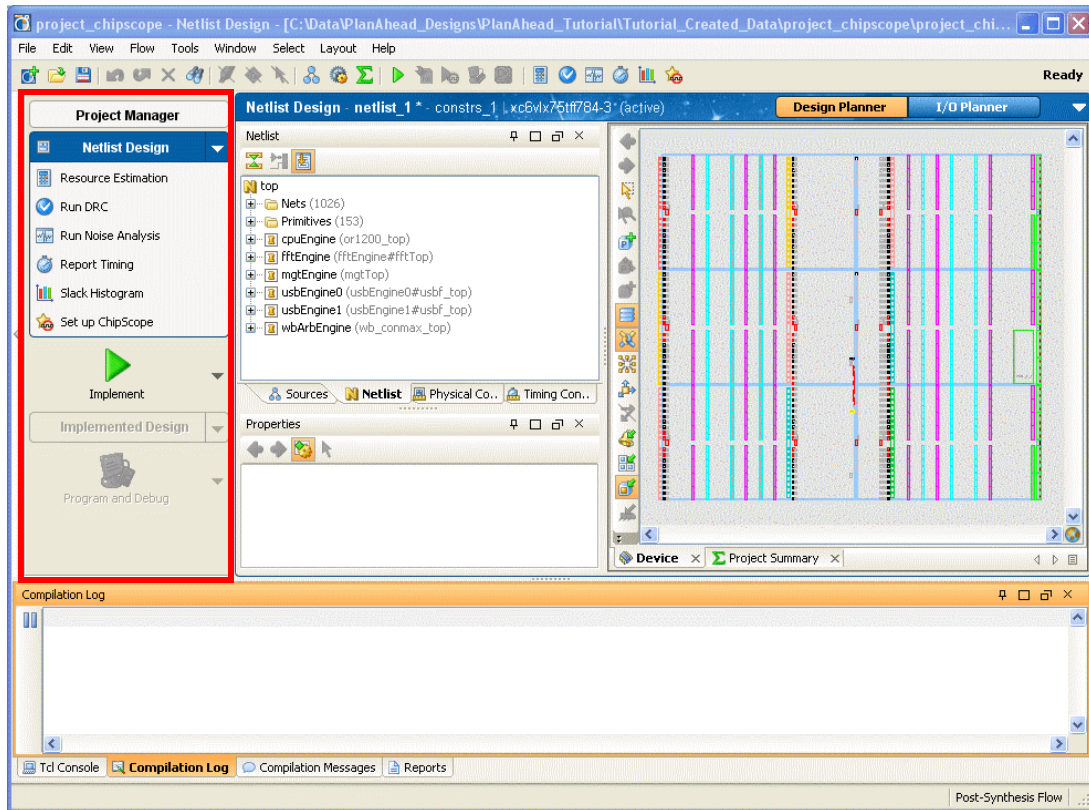

Figure 2: The Project in the Netlist Design Environment
- 1-2-6.** In the **Flow Navigator** on the left side of the PlanAhead Environment, click the **Netlist Design** button, which is outlined in red in Figure 2.